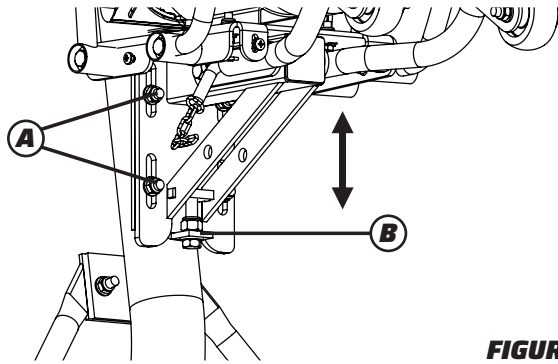

FIGURE 9
- a) Slightly loosen the 4 bolts that hold the motor mount assembly to the frame to allow vertical movement. **(Figure 9 - A)**
- b) Use a wrench or socket to adjust the vertical tensioner bolt beneath the motor mount. **(Figure 9 - B)**